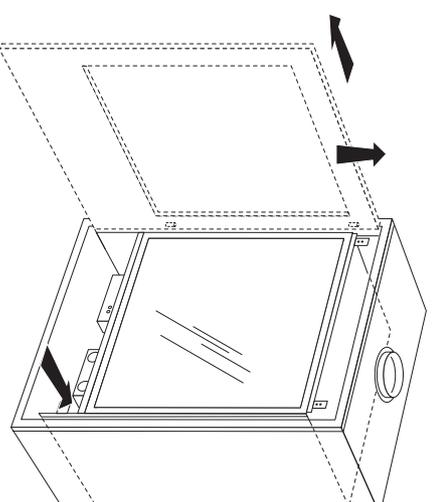

fig. 4
1. Open the door by pressing against the door at the bottom right and remove the door (see fig. 4).